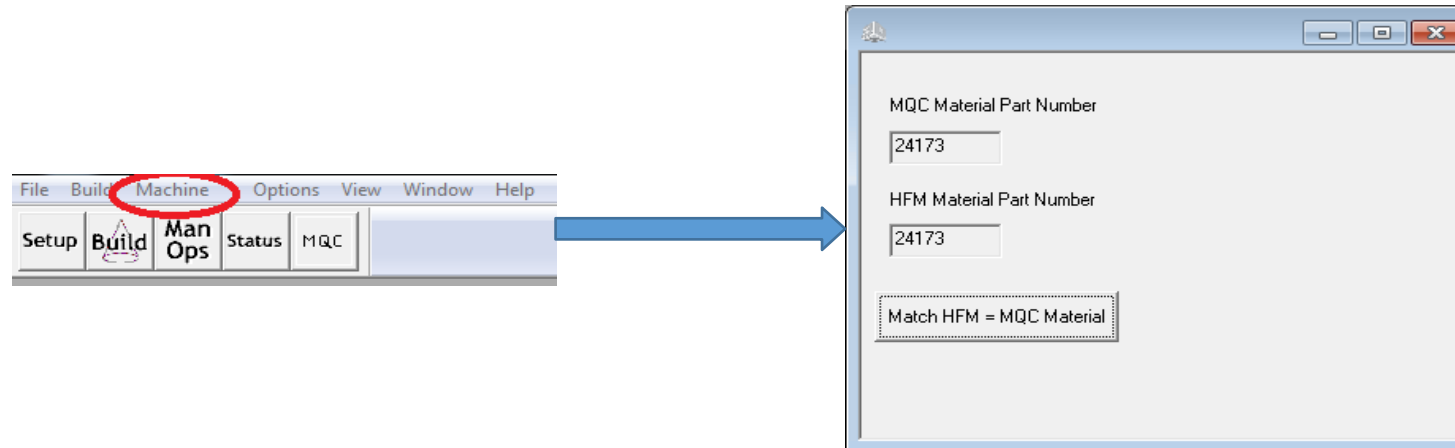

Figure 9
- a. After Sinter starts running, go to “Machine” menu and select “Material Tracking.” (Figure 9).